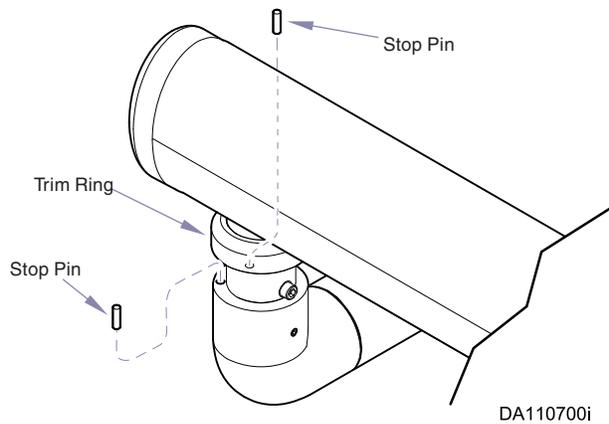

Figure 3
1. Slide the trim ring up (See Figure 3).